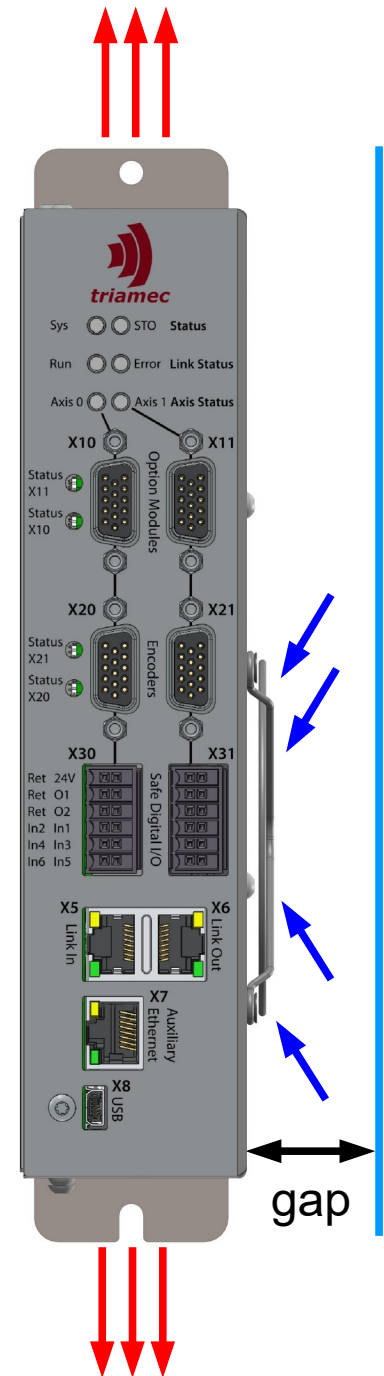

Figure 2: Mounting and cooling
- Mount the servo drive preferably in vertical position as depicted in Figure 2 (horizontal position is allowed too).